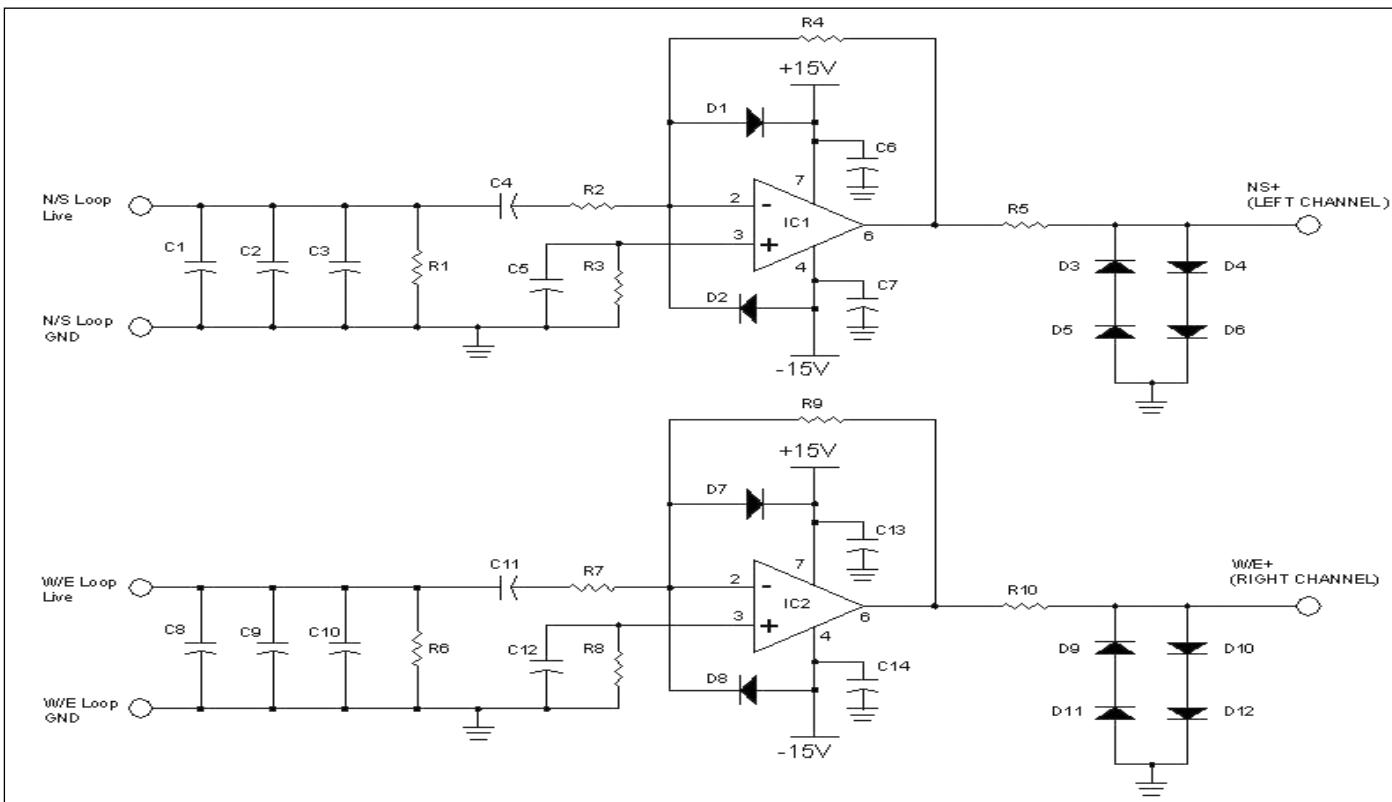
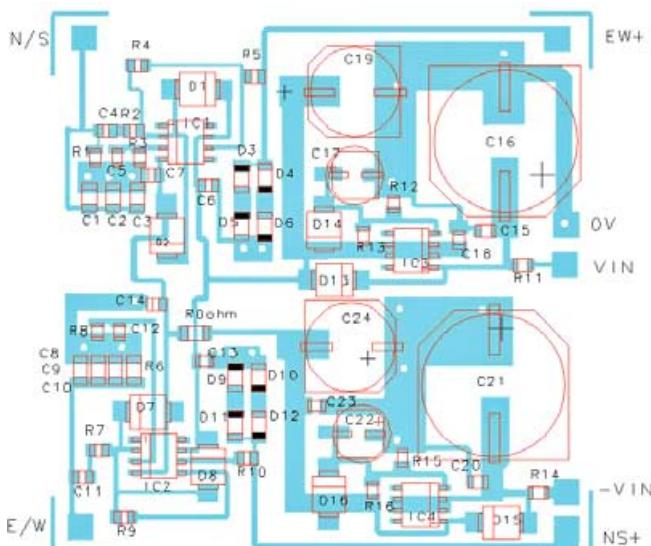

Figure 12
Figure 18
If the whole system is to be sited indoors, in a loft for example, then the circuitry could be easily built on *Veroboard* using leaded components. The surface mount (SM) design described below is based on Daniel's circuit. To simplify the build of the system, I designed a surface mount version of Daniel's LR design (figure 12 and 13). The top view, with component identities, is shown in figure 18. Figure 14 shows the system connections to the PC via a stereo 3.5 mm plug. Connection between the PC/PSU and the antenna-mounted LR PCB was made via four individually screened audio leads.